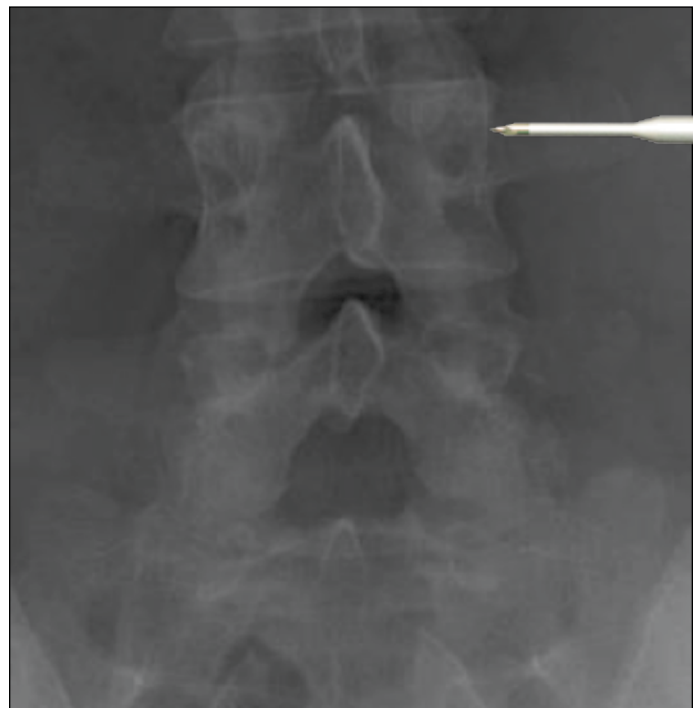

FIG. 6
- Alter the tip position until it appears to be on the lateral edge of the pedicle. (FIG. 6)